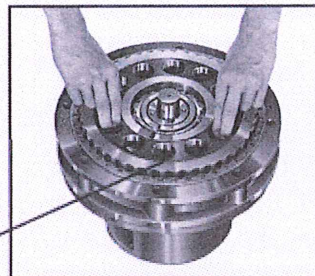

Fig. A-15
9. The eccentric (3-04) can be removed from the input shaft (3-01) after taking out the retaining ring (3-10) and the inner bearing raceway (Figs. A-15, A-16).
5. Insert the other spacer and the inner bearing raceway. Secure them with the retaining ring (Fig. A-15).